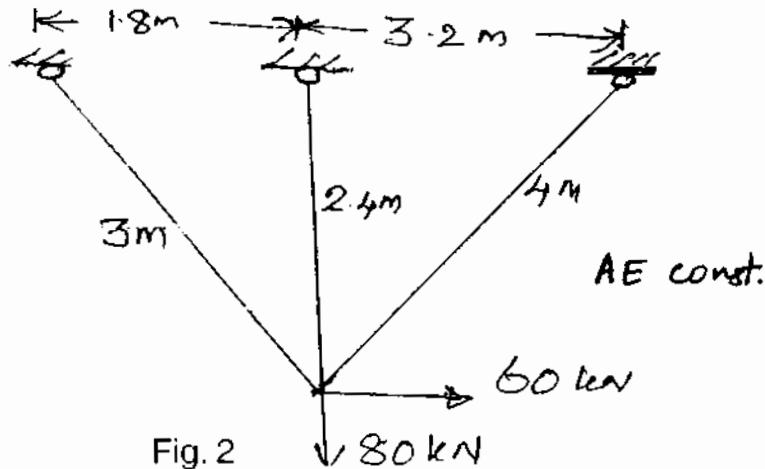

Fig. 2
10. Analyse the pin jointed truss shown in Fig. 2 by flexibility method and find the forces in the members of the truss. 20